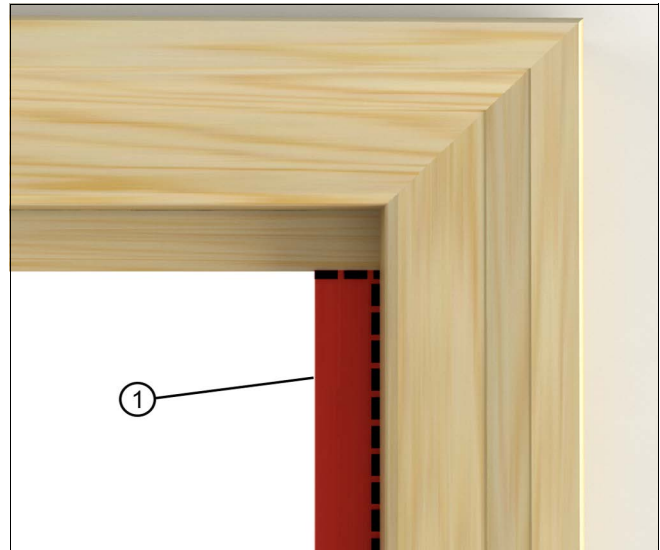

Figure 3
1. On exterior applications, use a reciprocating saw or hammer and chisel to remove the blind stop. Cut it flush with the exterior casing and frame. See Figure 3.